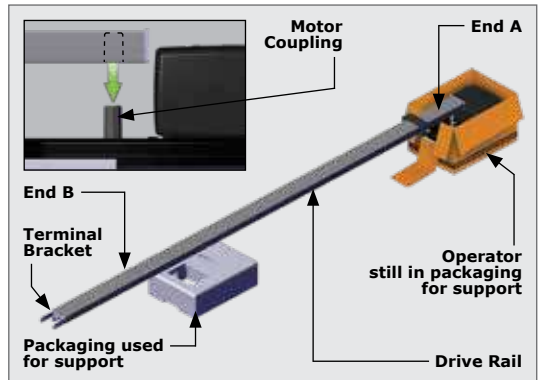

FIGURE 8
2. Orientate the Drive Rail as shown in Figure 8, and fit 'End A' over the motor coupling found on the motor.